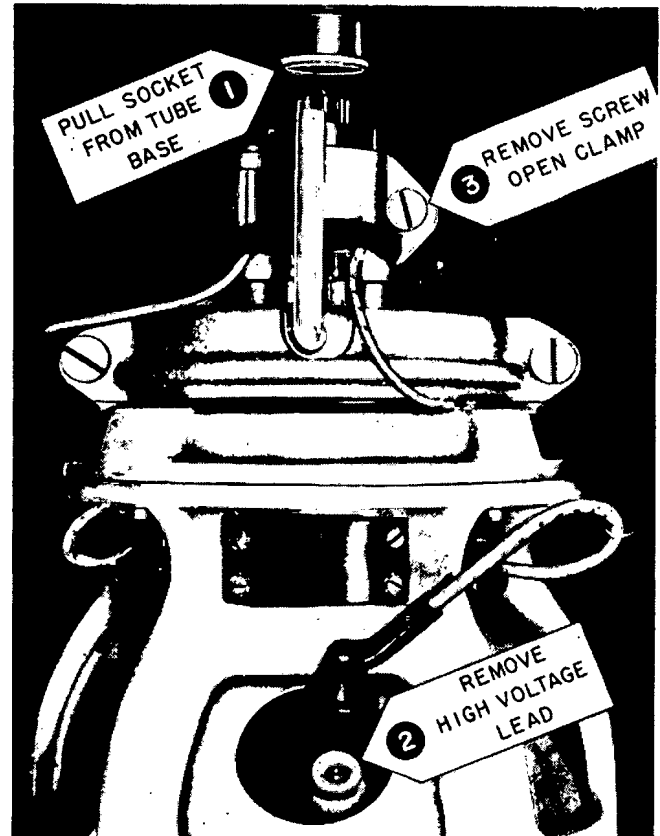
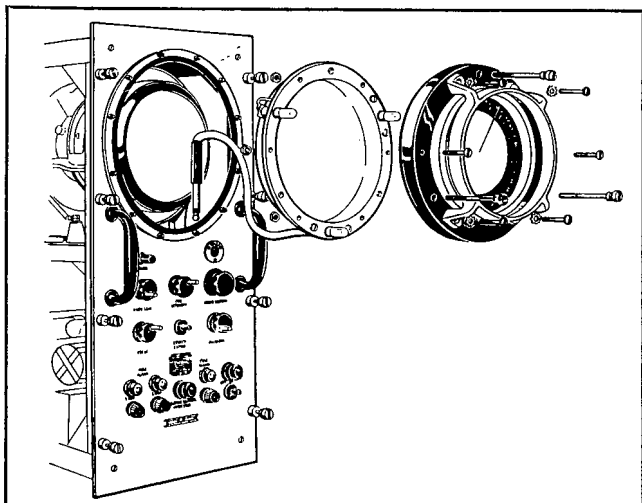
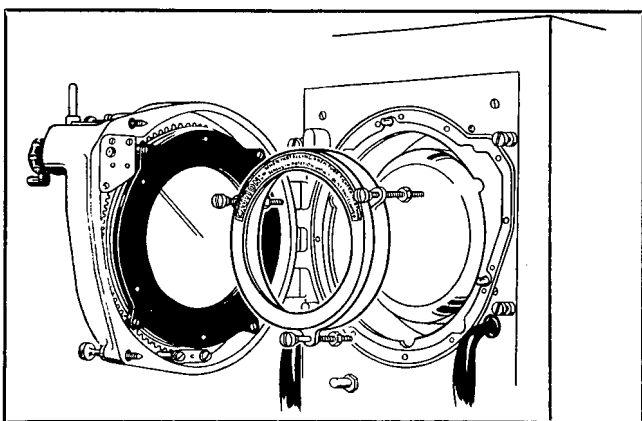
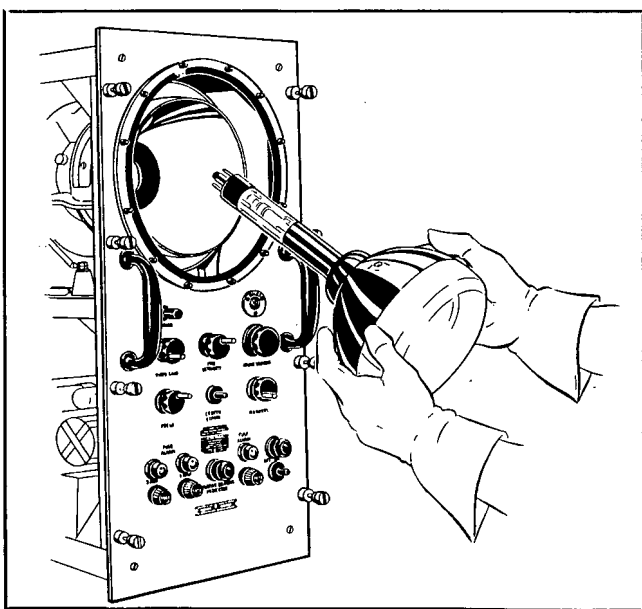

Figure 7-42. Disconnecting Cathode Ray Tube in PPI Indicator
Figure 7-43. Removing Manually Operated Cursor
Figure 7-44. Geared Cursor in Position to Permit Removal of Cathode Ray Tube
Figure 7-45. Removing Cathode Ray Tube from PPI Indicator
(1) Turn off the power and pull the set out of the case about two-thirds of the way. Disconnect the octal socket from the base of the tube. Remove the high voltage anode connector from the bowl of the tube. See Fig. 7-42. *Momentarily ground this snap connector to remove any charge remaining on the power supply capacitors.* Remove the three slotted thumb screws that fasten the molded bezel to the casting. If the tube is being removed from an Indicator with a manually operated Cursor, disconnect the bezel lights plug P-501 from its jack J-506, located on the horizontal shelf to the left of the casting, just in back of the front panel. If the cursor is manually operated, remove it by unscrewing the thumbscrews that hold it in place. See Fig. 7-43. If the cursor is gear driven, unscrew the two thumb-screws on the right-hand side and swing the hinged Cursor back out of the way. See Fig. 7-44.
(2) Loosen the three thumbscrews holding the retaining ring on the front edge of the PPI tube and remove the ring.
(3) Loosen the slotted thumbscrew that holds the clamp around the neck of the tube near its base as
shown in Fig. 7-42. Hold the face of the tube firmly, and open the hinged clamp. The tube can now be removed from the set. The tube must be removed with gloved hands as shown in Fig. 7-45, since there is danger of breakage.